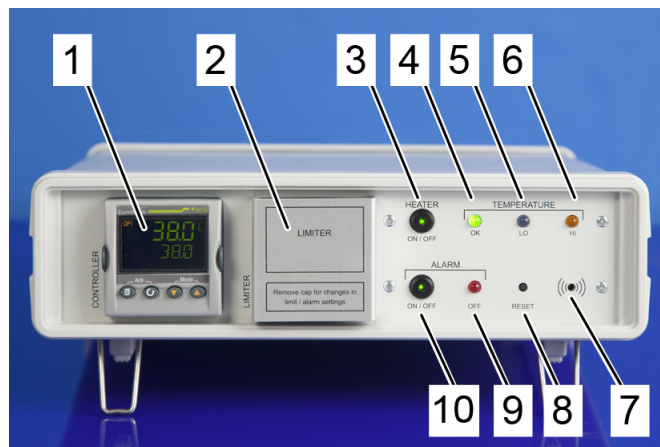

Figure 4.1: Front panel of the MRI Temperature Control Unit with Limiter unit covered
a1	Switch ON the main power at the rear panel. The heater and the alarm are automatically active (and if the temperature is too low an acoustic alarm is given). Indicators on the front panel have the following status: steady BLUE LED (Figure 4.1: (5)) & acoustic alarm signal: temperature low This is given by the fact that the Coil housing is at room temperature (< default parameter 38°C). Remark: A brief self test of the Eurotherm controller (and covered limiter) will follow in which all elements of the display light up and the firm-ware version number is shown. The Eurotherm controller and limiter are configured with the default parameters shown in Table 4.5 on page 19 & Table 4.6 on page 20 respectively.
The controller can be reset by pressing the reset push button on the front panel (Figure 4.1: (8)) with a ball pen.
c1	Press Reset push button on the front panel (Figure 4.1: (8)) with a ball pen to reset the controller. One of the following indicators on the front panel for temperature will light up: GREEN LED (Figure 4.1: (4)) for temperature ok BLUE LED (Figure 4.1: (5)) for temperature low ORANGE LED (Figure 4.1: (6)) for temperature high Heater ON Alarm ON